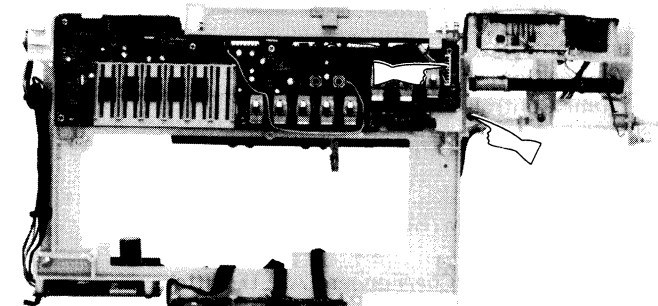

Figure 6-6
7. Remove one socket at the record/playback P.W.B. See Fig. 6-6.
8. Remove one screw at the tuner frame. See Fig. 6-6.